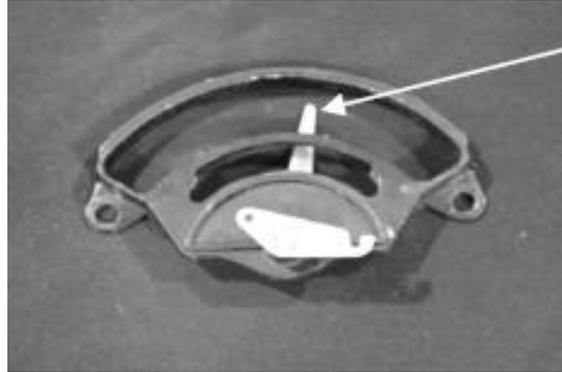

Figure 5
- 8) Remove the stock gear selector pointer. (figure 5)